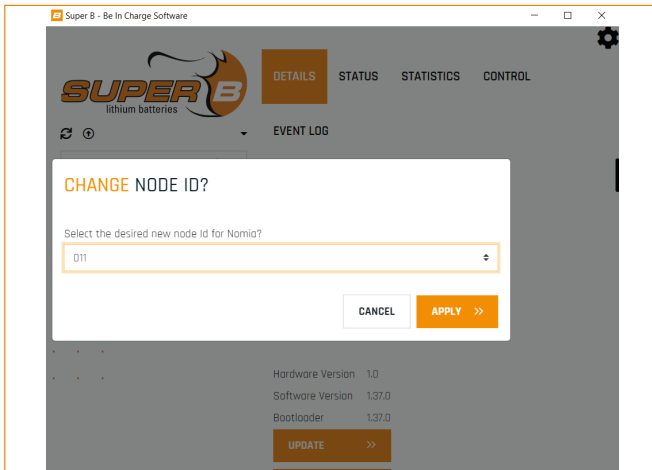
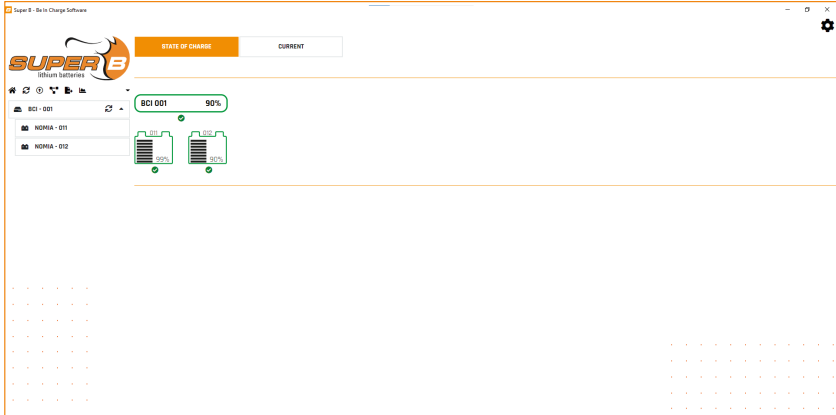

Figure 15. Select the desired new node ID from the dropdown menu
Figure 16. State of charge tab - BIB and Li-ion batteries
2. Click 'Scan'. Make sure to select the full Node-id range by dragging the selection bars. The Be in Charge Software requests the BIB to scan for connected Li-ion batteries. When the scan is completed, the BIB and all Li-ion batteries connected to it will be shown (see figure 15). Select "BCI", the number of Li-ion batteries connected will be shown in the "BCI Configuration" section in the "Total # batteries" field (see Figure 16).
The BIB contains four hardware inputs: OFF, Precharge, ON and Reset (see Figure 16; this option is only visible if the user level of the Be in Charge Software is set to 'Integrator', see
The "BCI Modules" section (see Figure 16) can be used to select a communication protocol for the slave connector of the BIB (J2). The default setting is CANOpen (CiA418 and Super B features). There is also an option to use proprietary protocols. This list is subject to change therefore, the list may look differently depending on the software version.
The 'Auto On' setting (see Figure 16) enables the automatic start up option function. If it is enabled the BIB will go to ON state (see 3.2.2.1) automatically when the BIB starts up or after a reset. The BIB will go to error state (see 3.2.2.4) if an error occurs. When the error is cleared the BIB will automatically go to ON state if the 'Auto On' function is enabled.